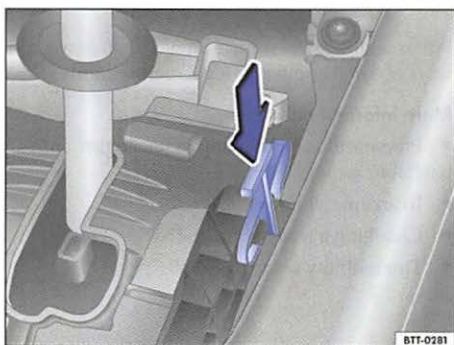

Fig. 175 Releasing the selector lever lock.
- Push the release lever ⇒ fig. 175 in the direction of the arrow and hold it in this position.